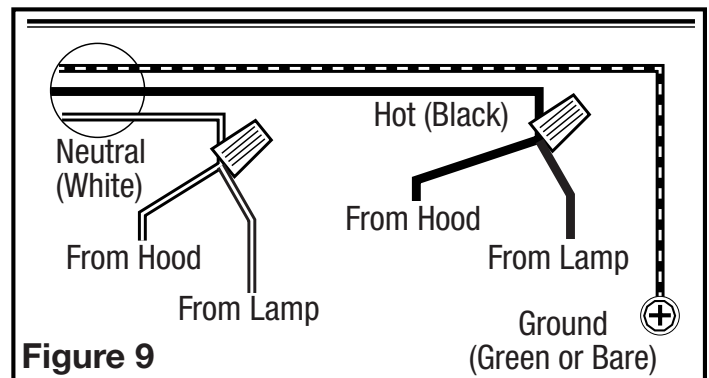

Figure 9
1. Connect the loose White wires from the range hood to the White wire from the supply, and the loose Black wires from the range hood to the Black wire of the supply. Connect the ground wire (green or bare) from the supply to the green ground screw of the hood. Use approved methods for all connections (**Figure 9**).